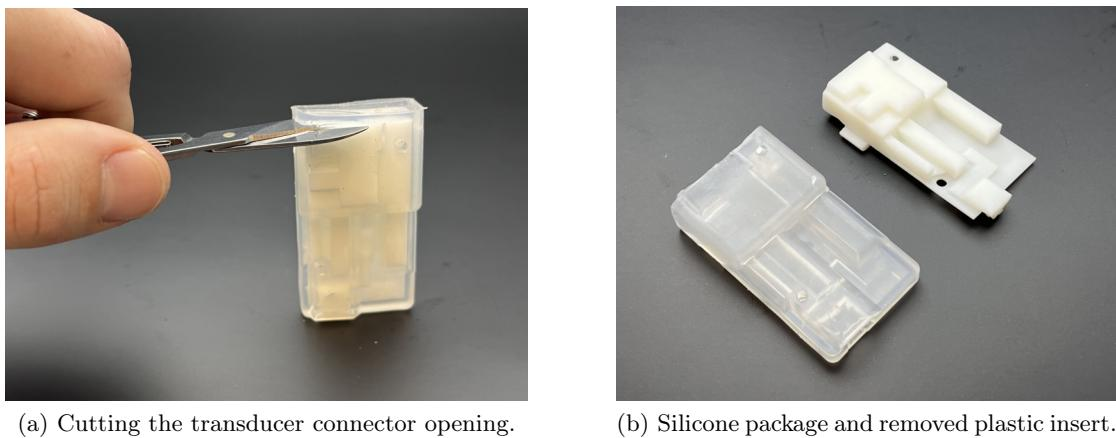

Figure 2.10: Preparing the final silicone package.
3. Cut an opening for the transducer connector as shown in Fig. 2.10.